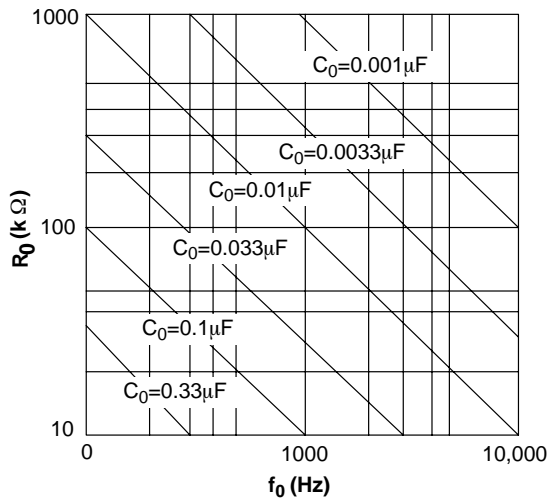

Figure 7. VCO Frequency vs. Timing Capacitor
- c) Calculate value of C₀ from design equation (1) or from *Figure 7*: